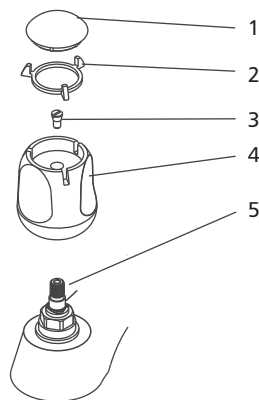

Figure 4 Handwheel fixation
- Position the spout with the outlet nozzle facing the 10 o'clock position so that the ball bearing engages with the groove in the body Fig 4